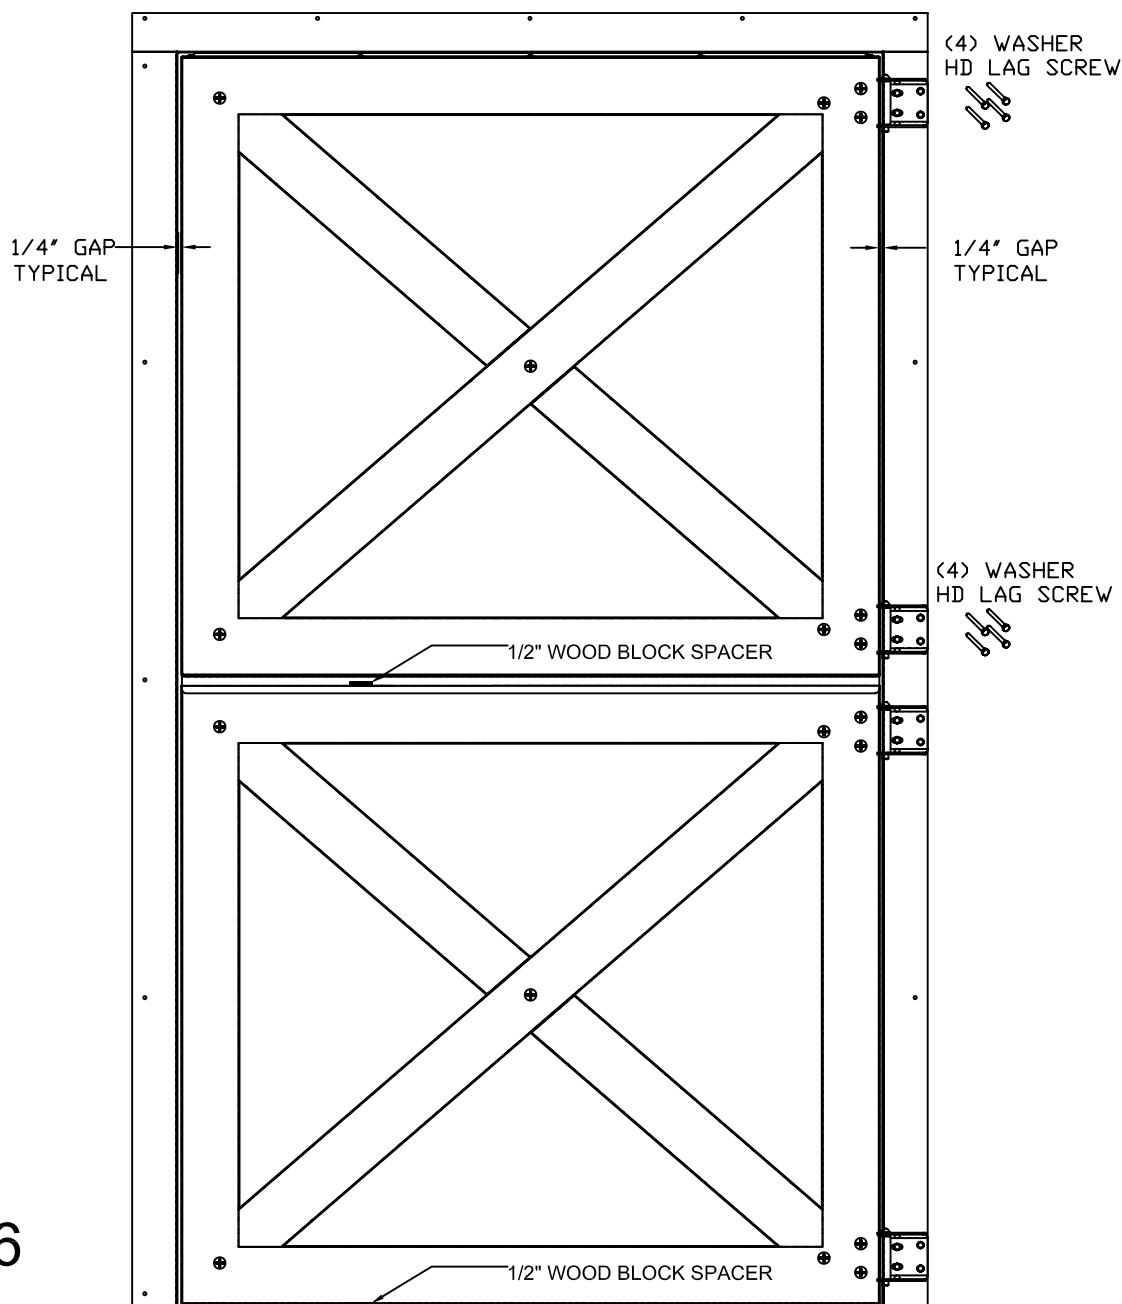

FIG. 6
1. LEAVE BOTTOM SPACER IN PLACE. USING TAPE TO HOLD IN PLACE, ATTACH A 1/2" WOOD BLOCK SPACER ON TOP OF THE BOTTOM DOOR OR THE BOTTOM OF THE TOP DOOR, WHICHEVER WAS HUNG FIRST AS SHOWN IN FIG. 6 BELOW.